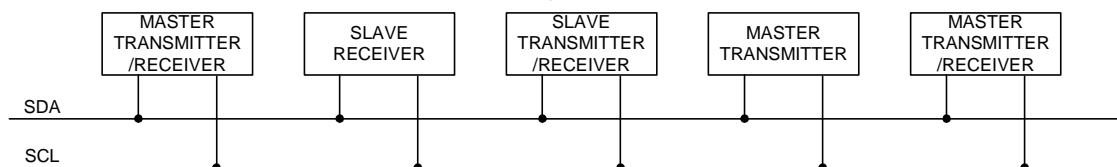
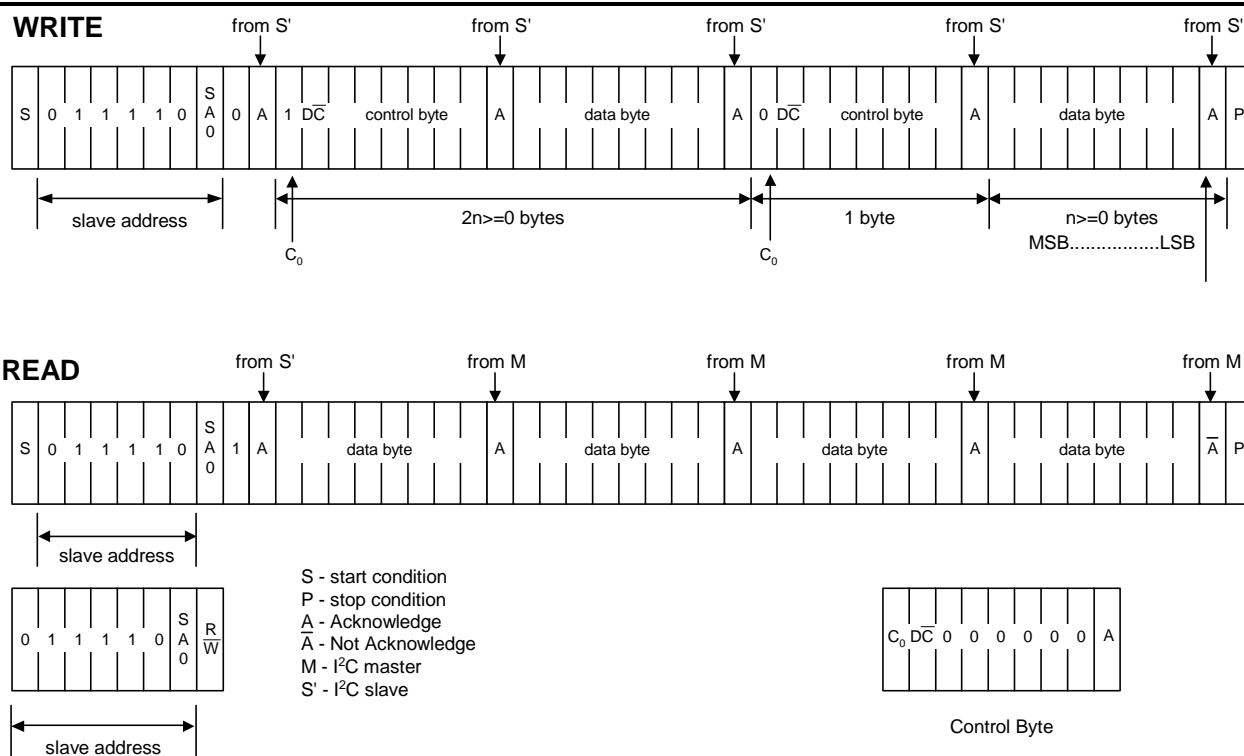

Figure 7 System configuration
Figure 9 I²C Protocol
The SH1107 supports both read and write access. The R/\overline{W} bit is part of the slave address. Before any data is transmitted on the I²C-bus, the device that should respond is addressed first. Two 7-bit slave addresses (0111100 and 0111101) are reserved for the SH1107. The least significant bit of the slave address is set by connecting the input SA0 to either logic 0(VSS) or 1 (VDD). The I²C-bus protocol is illustrated in Fig.7. The sequence is initiated with a START condition (S) from the I²C-bus master that is followed by the slave address. All slaves with the corresponding address acknowledge in parallel, all the others will ignore the I²C-bus transfer. After acknowledgement, one or more command words follow which define the status of the addressed slaves. A command word consists of a control byte, which defines Co and D/\overline{C} (note1), plus a data byte (see Fig.9). The last control byte is tagged with a cleared most significant bit, the continuation bit Co. After a control byte with a cleared Co-bit, only data bytes will follow. The state of the D/\overline{C} -bit defines whether the data-byte is interpreted as a command or as RAM-data. The control and data bytes are also acknowledged by all addressed slaves on the bus. After the last control byte, depending on the D/\overline{C} bit setting, either a series of display data bytes or command data bytes may follow. If the D/\overline{C} bit was set to '1', these display bytes are stored in the display RAM at the address specified by the data pointer. The data pointer is automatically updated and the data is directed to the intended SH1107 device. If the D/\overline{C} bit of the last control byte was set to '0', these command bytes will be decoded and the setting of the device will be changed according to the received commands. The acknowledgement after each byte is made only by the addressed slave. At the end of the transmission the I²C-bus master issues a stop condition (P). If the R/\overline{W} bit is set to one in the slave-address, the chip will output data immediately after the slave-address according to the D/\overline{C} bit, which was sent during the last write access. If no acknowledge is generated by the master after a byte, the driver stops transferring data to the master.